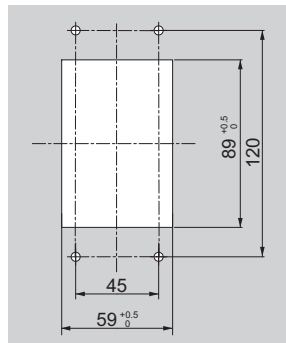

Figure 2.13 Panel Cut-Out Dimensions (Internal/Flush-Mount Installation)
1. Cut an opening in the enclosure panel for the digital operator as shown in *Figure 2.13*.